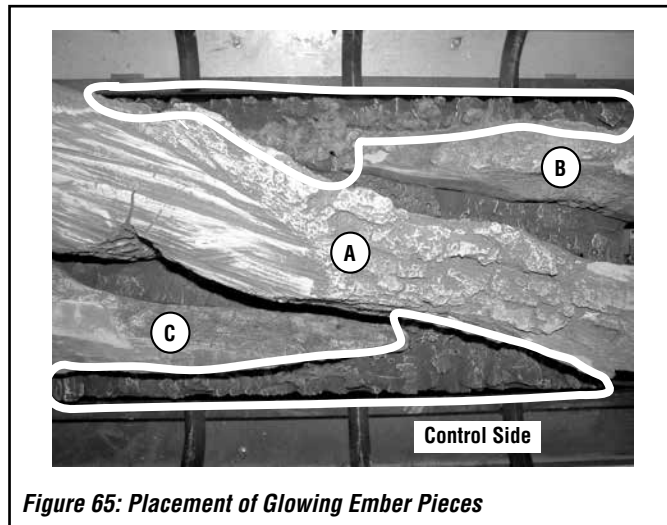

Figure 65: Placement of Glowing Ember Pieces
- b) Distribute the dime-sized pieces over the surface of the burner, in the areas shown in Figures 65 and 66.